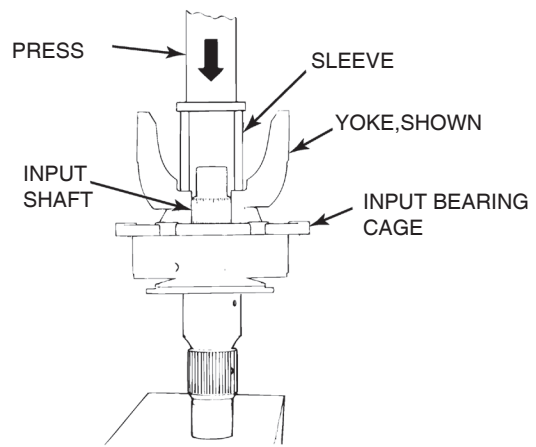

Figure 5.73
7. Use a press and sleeve or an installation tool to install the fork or the flange in the input shaft. If a press and sleeve are used, verify that the input shaft is well supported. Figure 5.73.